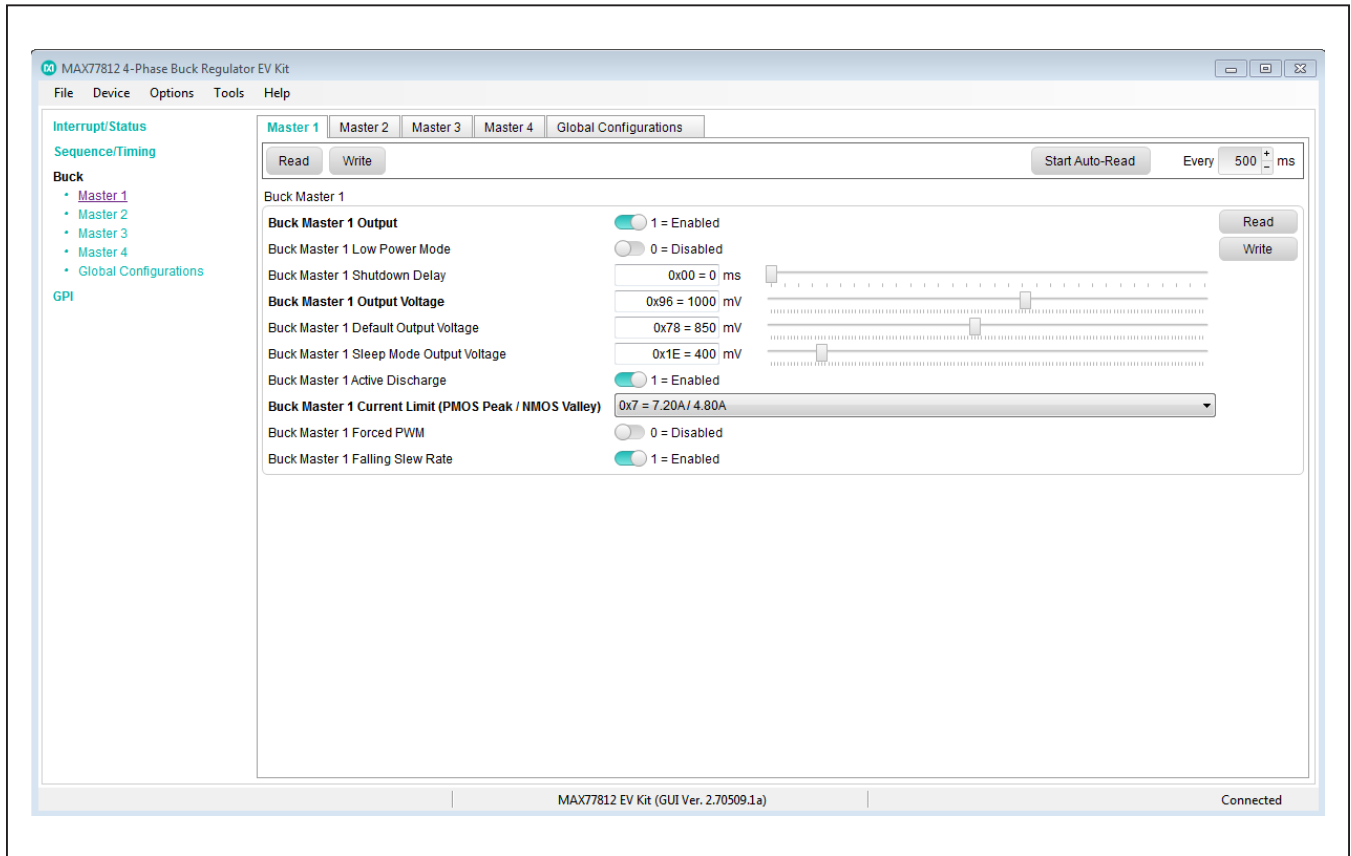

Figure 5. MAX77812 EV Kit GUI V_{OUT} Enable
- 5) Go to the **Buck** then **Master 1** tab and select the following settings (Figure 5):